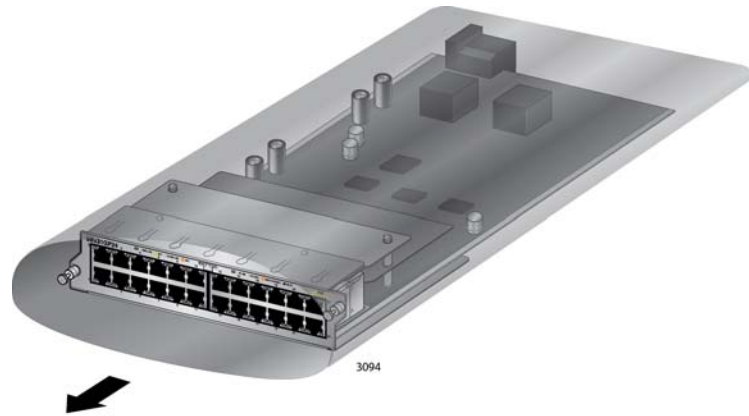

Figure 76. Removing an Ethernet Line Card from an Anti-static Bag
3. Carefully remove the Ethernet line card from the anti-static bag. Refer to Figure 76 on page 135.